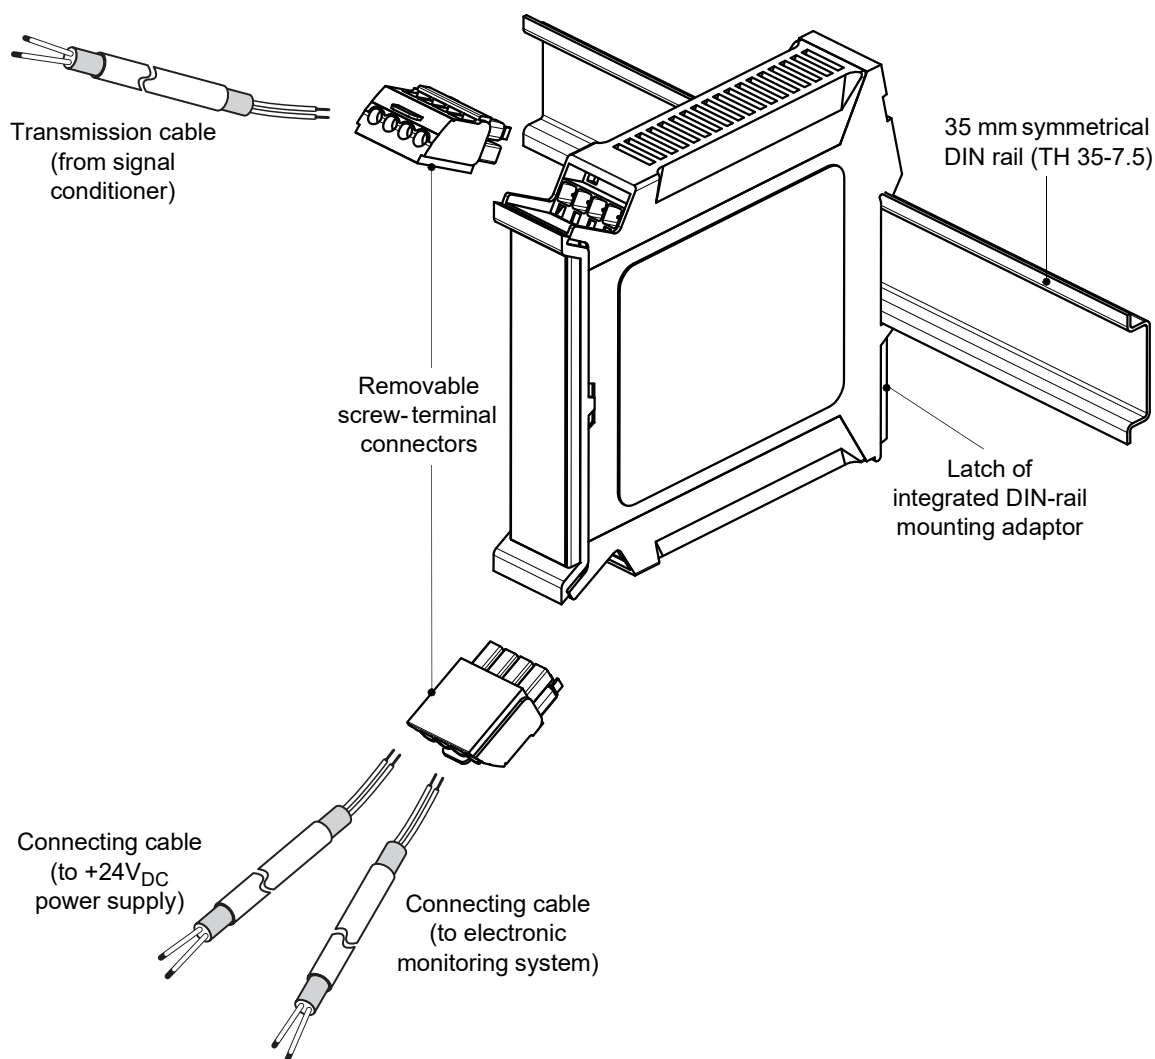
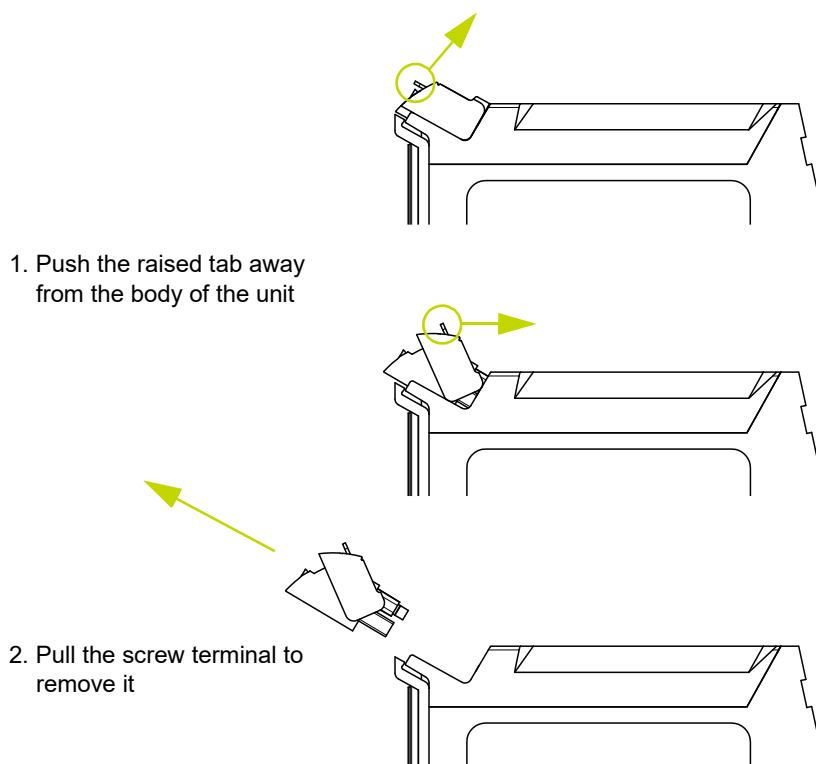

Figure 5-1: GSI127 galvanic separation unit on a DIN rail
Figure 5-2: Removing a screw-terminal connector from the main body of a GSI127 unit
A GSI127 galvanic separation unit should be installed vertically on a 35 mm wide symmetrical DIN rail such as a TH 35-7.5 (see Figure 5-1) and is generally mounted in an industrial housing, rack or cabinet.
As shown in Figure 5-1, a GSI127 is typically installed right-side-up (with the mounting adaptor latch at the bottom of the unit), but it can equally be installed upside-down (inverted, with the mounting adaptor latch at the top of the unit) for ease of installation and wiring.
- 1- Push the raised tab on the front of the screw-terminal connector (which acts as a lever) away from the main body of the unit to overcome the retaining force and separate the screw-terminal connector and the unit (see Figure 5-2). Use enough force to separate the connector from the body of the unit by approximately 5 mm.
The transmission cable from the “sensor-side” circuitry (sensor) and the connecting cable to the “monitor-side” circuitry are connected to the GSI127 galvanic separation unit using removable screw-terminal connectors (see Figure 5-1 and Figure 5-2).